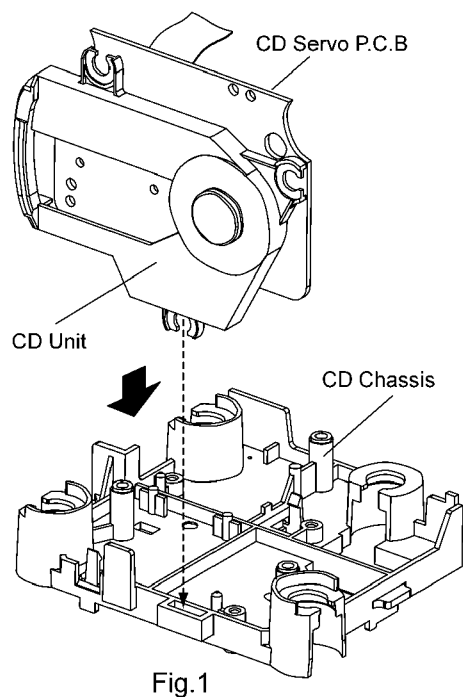

Fig.1
1. Follow steps described in item 10.1 ~ 10.2.
Step 1: Insert the CD unit as the arrow indicated. (Fig.1 & Fig.2)